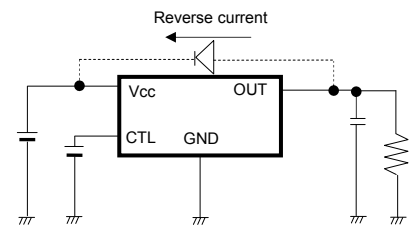

Fig. 36: Bypass diode
2) This IC is bipolar IC that has a P-board (substrate) and P+ isolation layer between each device, as shown in Fig.36. A P-N junction is formed between this P-layer and the N-layer of each device, and the P-N junction operates as a parasitic diode when the electric potential relationship is GND> Terminal A, GND> Terminal B, while it operates as a parasitic transistor when the electric potential relationship is Terminal B GND> Terminal A. Parasitic devices are structurally inevitable in the IC. The operation of parasitic devices induces mutual interference between circuits, causing malfunctions and eventually the destruction of the IC. It is necessary to be careful not to use the IC in ways that would cause parasitic elements to operate. For example, applying a voltage that is lower than the GND (P-board) to the input terminal.